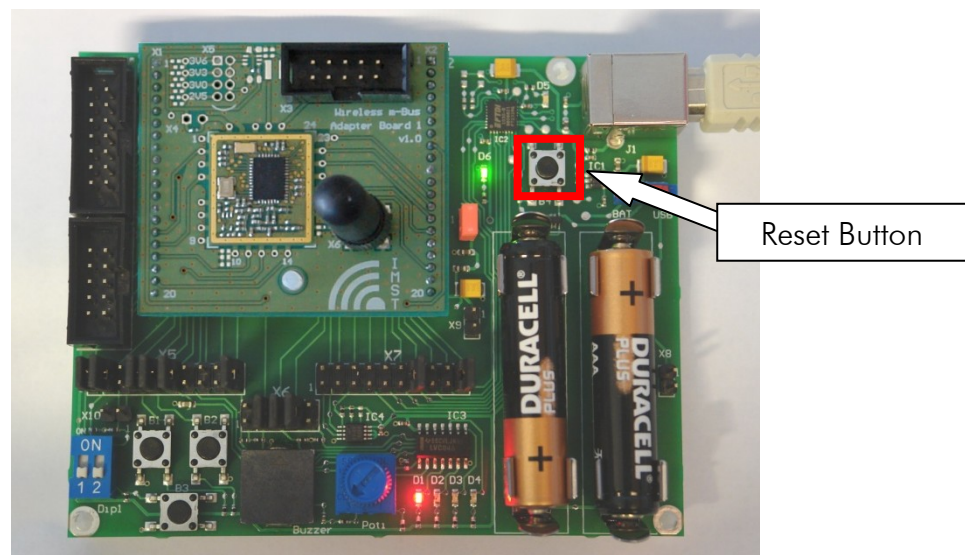

Figure 3-2: Reset Button on WiMOD Demo Board
- **IMPORTANT:** If you are upgrading the firmware of a iM871A module on a WiMOD Demo Board you need to Press the Reset Button (see figure 3-2) within three seconds after starting the upload. When updating the iM871A USB-Stick the reset is done automatically